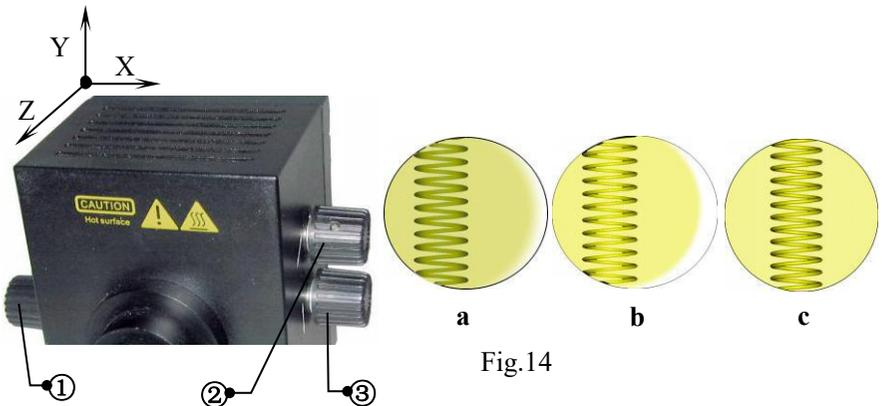
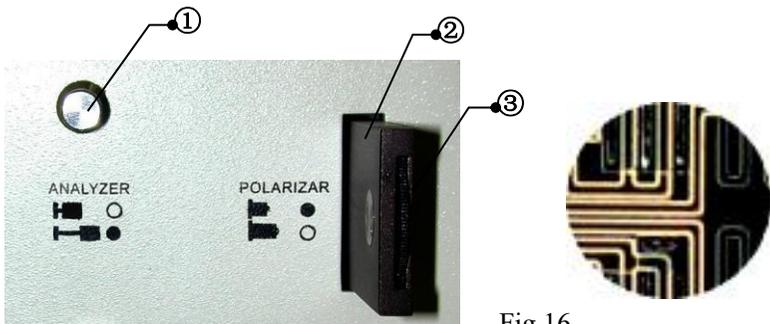

Fig.14
Fig.16
b. If the field of view brightness asymmetry, you should adjust the position of light bulb to collector lens. Can use collector lens adjusting knob ① and light bulb centering knob ②,③ to adjust the light bulb position. First, take out any objective from nosepiece, put a piece of white paper on the glass plate of stage, a light spot with filament image will display on the paper, like fig.14-a. Adjust the lens adjusting knob ① to make the filament image clear, like fig.14-b. If the filament image offset the center of light spot, like fig.14-c. you can adjust the light bulb centering knobs, the knob ② is used for left and right adjustment (X axis), the knob ③ is used for up and down adjustment (Y axis). After adjusting, the filament is in the center of light spot. Like fig.14-c.
the analyzer and polarizer are orthogonal polarization, the micro-image or field of view is best dark. See fig.16
The microscope can be observed in dark field. Pull out the bright or dark field switch push rod ① (See fig.17) , open field diaphragm and iris diaphragm to maximum, the analyzer and polarizer are located on the position, like mark “ $\blacksquare \bigcirc$ ” and “ $\blacksquare \bigcirc$ ” (See fig.16). When observe in dark field, you can adjust the lens adjusting knob ① (See fig.14) to obtain satisfactory dark field illumination effect.